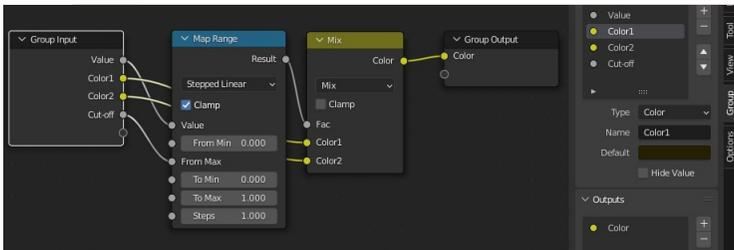

Figure 13-4 The Nodes inside the cell_shader_stop node group.
5. For the general purpose version of this group you need to add an input to control the cut-off point. In the sidebar select the Node tab then add a new input by clicking on the relevant +. Change the name of the new input to Cut-off, the default to **0.5**, Min to **0.0** and Max to **1.0**. Connect the Cut-off input to the From Max input of the map range node, set the From Min to **0.0** and the Steps to **1.0**. The layout of nodes within the group is shown in Figure 13-4.